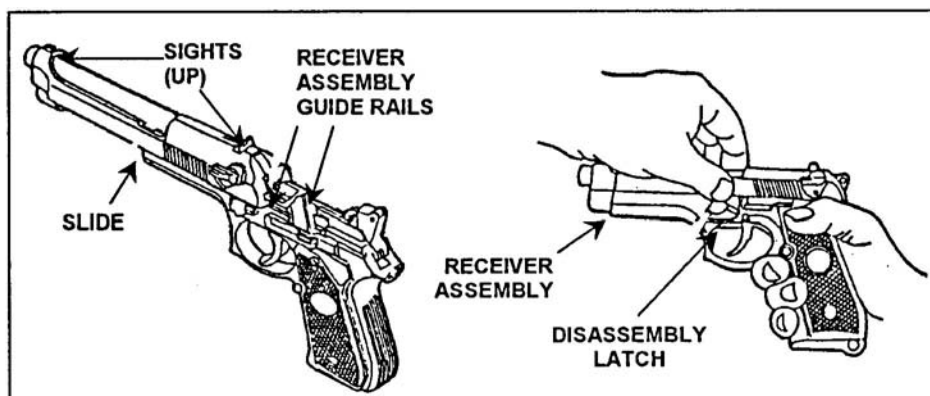

Figure 8. Final assembly.
- f. Push the firing pin block lever down. Grasp the slide and barrel assembly with the sights up, and align the slide on the receiver assembly guide rails (Figure 8).
- g. Push until the rear of the slide is a short distance beyond the rear of the receiver assembly and hold. At the same time, rotate the disassembly latch lever upward. A click indicates a positive lock (Figure 8).
- (1) Insert the follower into the top coil of the magazine spring. Make sure the notches on the follower and magazine tube are on the same side.
- (2) Insert the magazine spring with follower into magazine tube.
- (3) Turn the magazine bottom up, with its backside against the palm of the hand. Attach and center the floor plate retainer on the bottom spring coil.